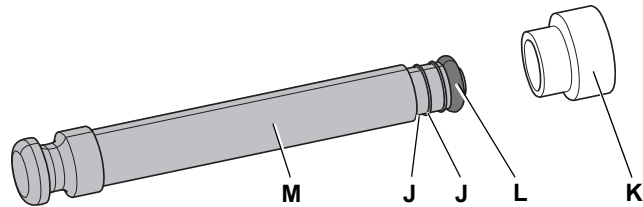

Fig. 7-26 Syringe plunger and cap
- 4 Moisten the O-ring (L) with distilled or de-ionized water Fig. 7-26 , 7-39.
- 5 Install a new syringe cap (K) onto the plunger (M) Fig. 7-26 , 7-39.
- 6 Press cap wall onto sharp edges on the plunger (M) for anchoring Fig. 7-26 , 7-39.
- 7 Moisten cap (K) and push plunger (M) into syringe barrel Fig. 7-26 , 7-39.